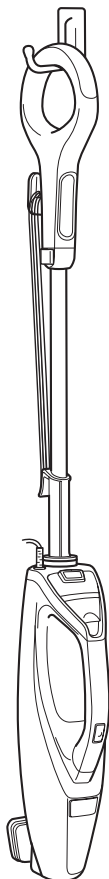

fig. 13
- 5 To store the Steam Mop hanging up, first remove the Mop Head (after it has cooled and the steam has been released), then hang on a large hook (not included) (**fig. 13**).